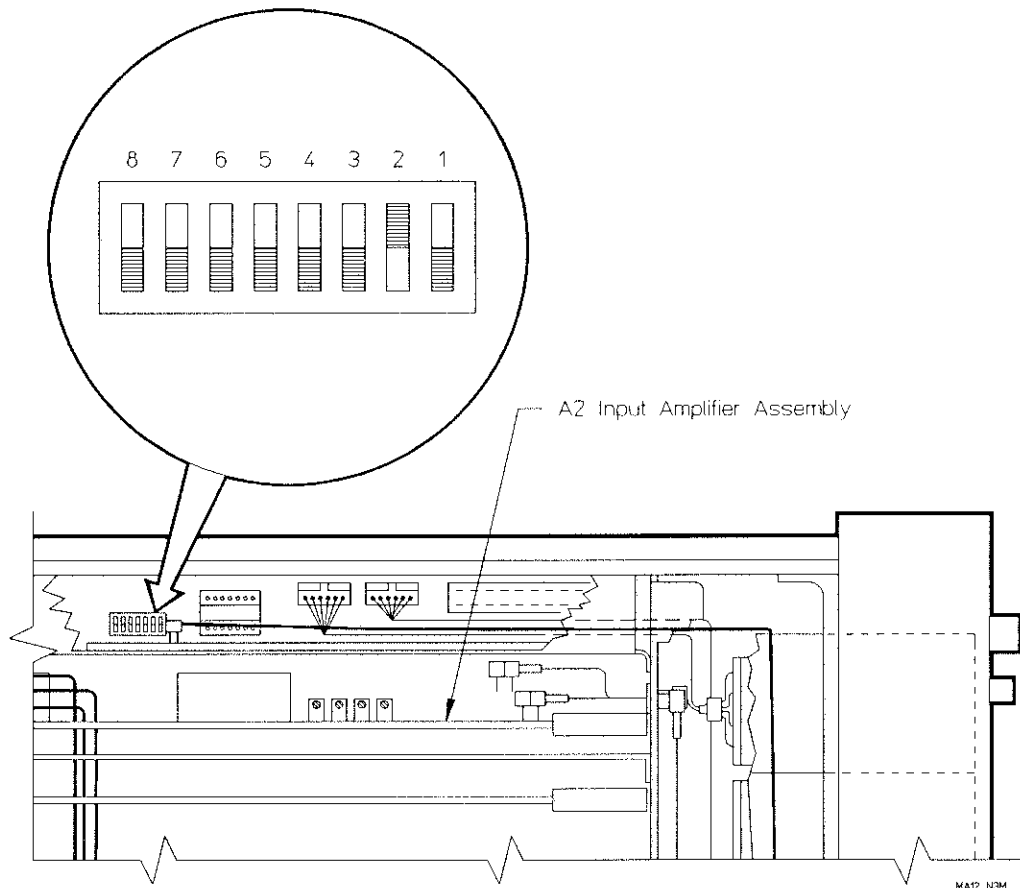

Figure 1-9. Option 060 Switch Setting
12. When a standard instrument is shipped from the factory, the Option 060 Selection Switch (A12S1) is set with all eight switches in their left-most position (i.e., toward center line of instrument as viewed from the front panel). To modify the switch settings to accommodate installation of Option 060, set switch #2 (second switch from the front panel) to its right-most position. (See *Figure 1-9*.)